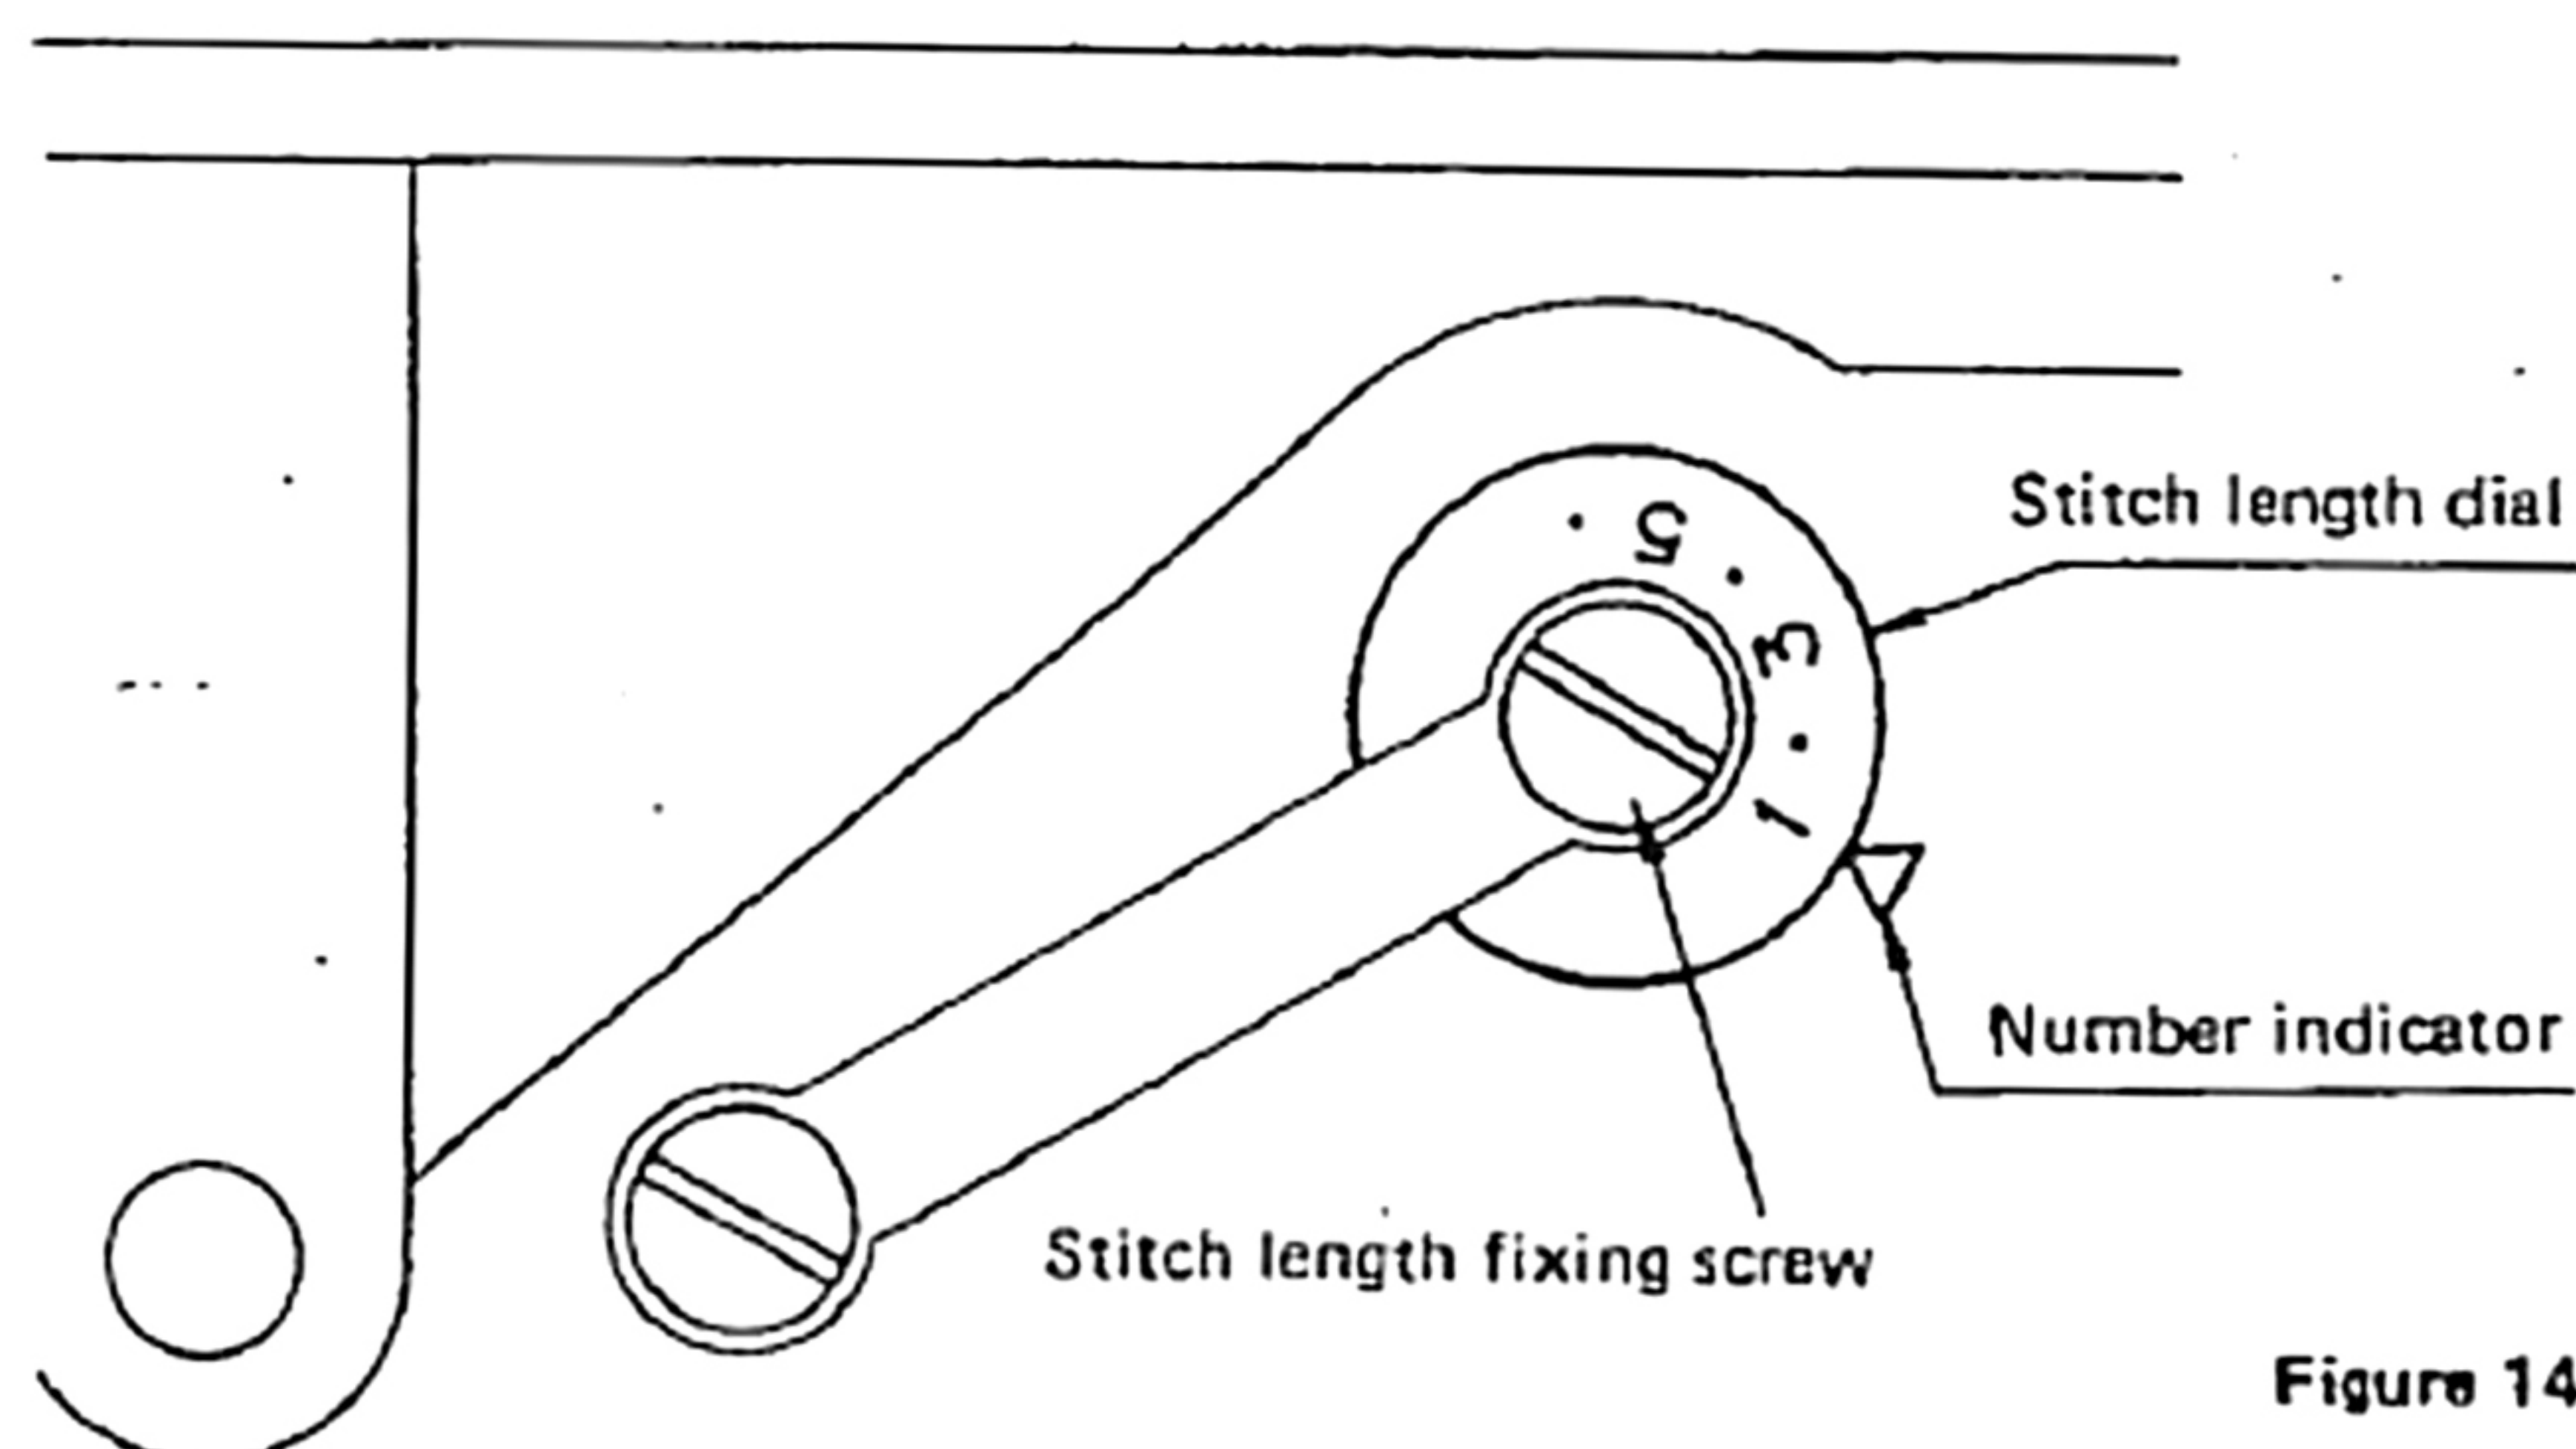

Figure 14
4. Turn the stitch length dial to align the number indicator to the desired stitch length (Figure 14).